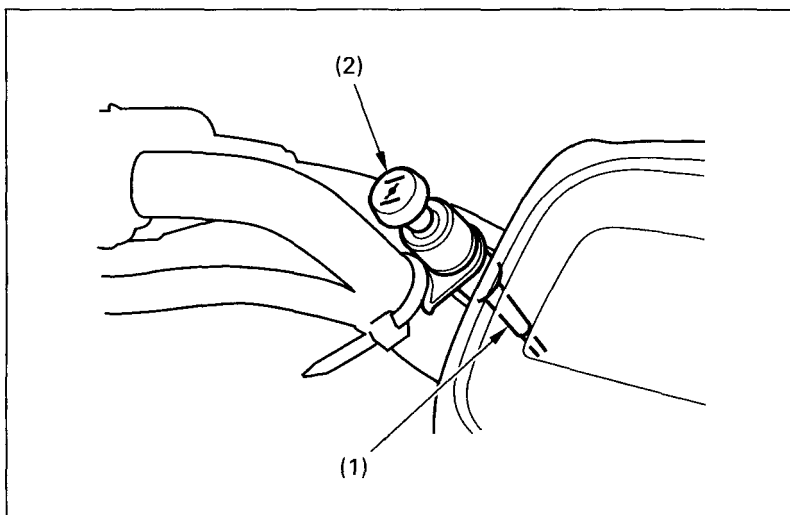

Fig. 4-8
Check the condition of the choke cable (Fig. 4-8) and the operation of the choke knob (2). If the cable is damaged or kinked, have it replaced by your Honda dealer.